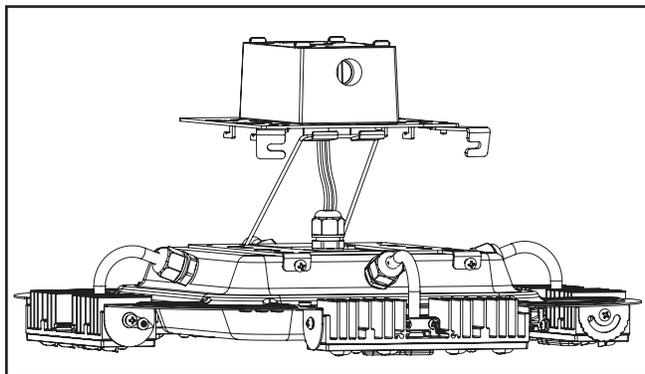

Figure 5.
6. Make electrical connections. (Figure 5.)